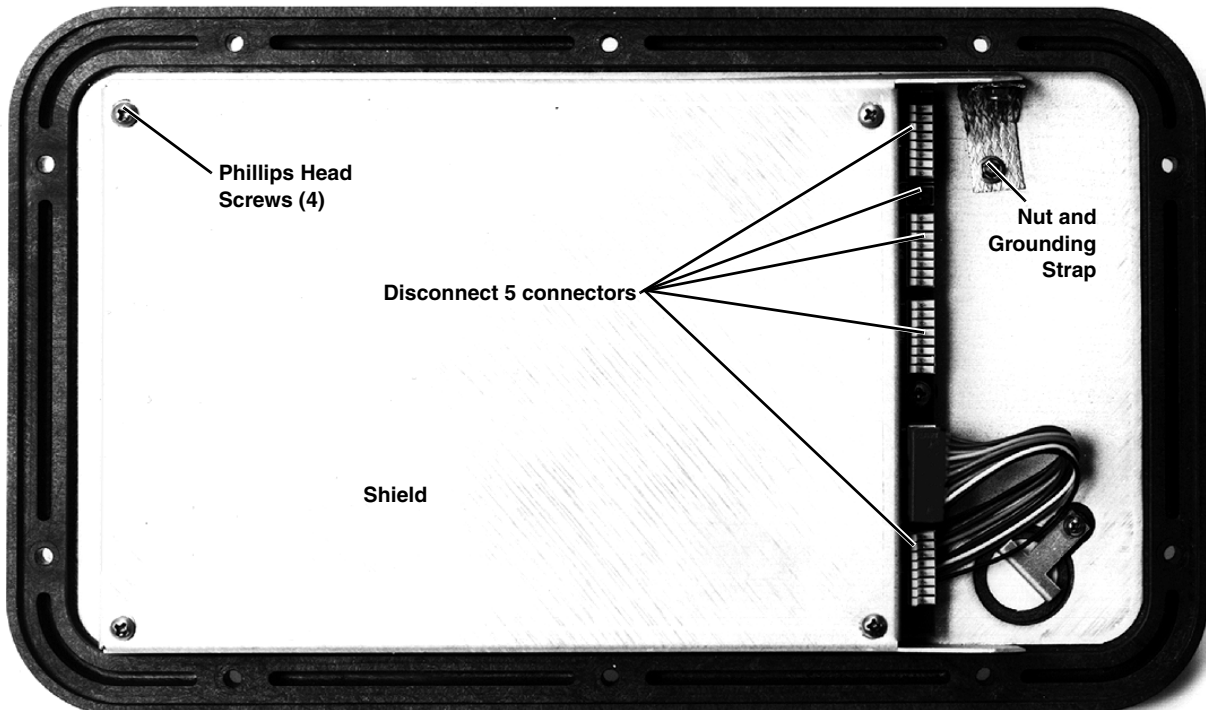

Figure 6-2 Underside of the Control Box Cover
3. Lift the cover and frame off the control box and turn it over, as shown in Figure 6-2, on page 6-3.